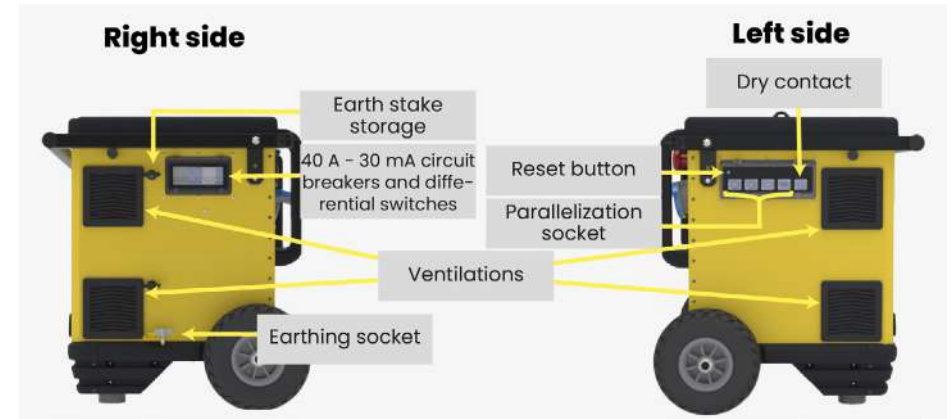

Figure 3 : Lateral surfaces of the device
- Check that the device is working. The value displayed on the load level screen must not exceed 8kW (see §II.3. Figure 3) and check the remaining operating time.